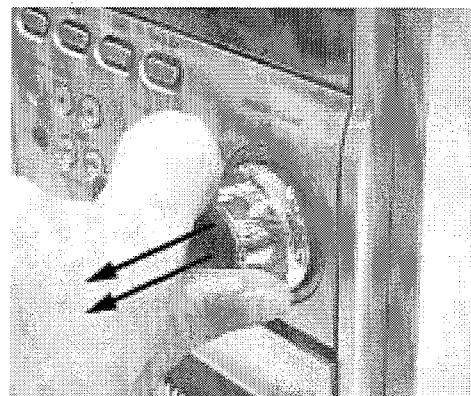

Figure 8
- 1) The Knob Volume (pos 141) can be removed by pulling it out in the direction as shown in Figure 8.